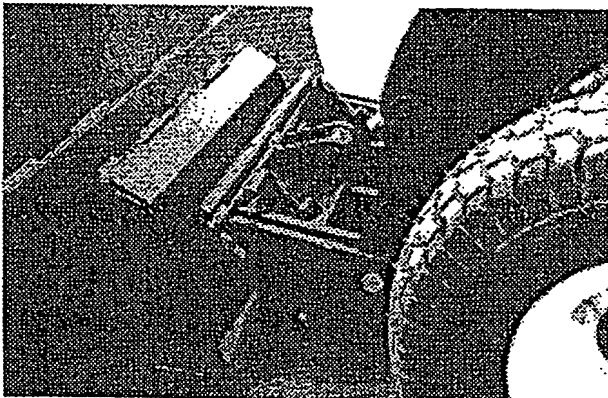

FIGURE 7
2. Tilt the attachment frame forward as shown in **Figure 7**, so that the top round edge of the attachment frame will fit under the lip on the attachment.